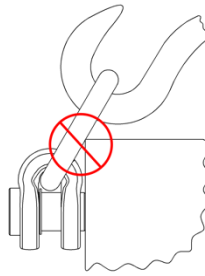

Fig 2
- Make sure the hoist ring bail/ring or hardware attached to it does not come in contact with the workpiece or any obstacles during the lift. The ring must not bind on the edge of the workpiece. Use spreader beam to avoid binding (Fig.2).
Acceptable pulling area, restrictions apply (see Fig. 2 and Safety Information above)